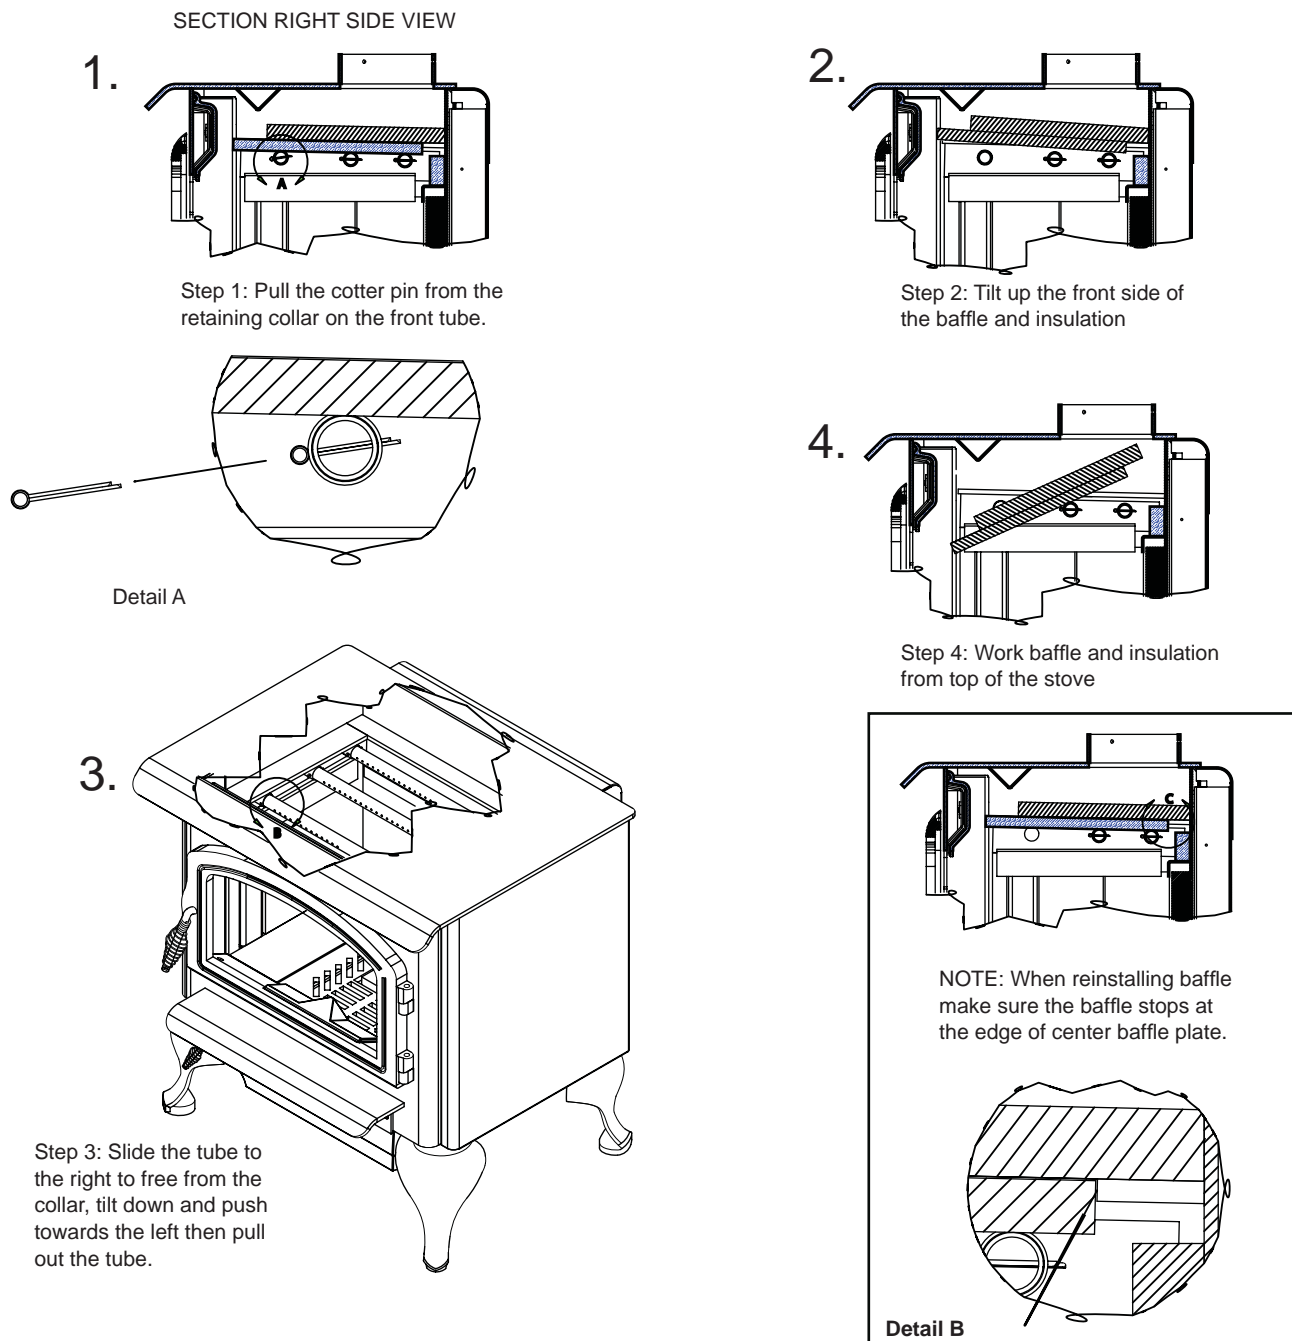

Figure 15: Removing Baffle
3. Slide the tube to the right to free from the collar, tilt down and push towards the left, then pull out the tube. See Figure 15.